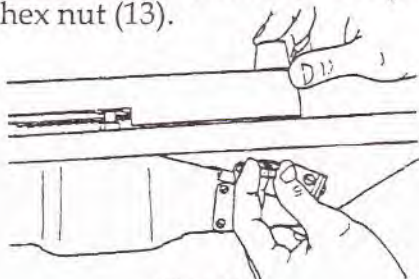

Fig. 13
22. Attach a special washer (17) and hex nut (13) to the stud, as shown in Fig. 13. Use a 1/2" socket wrench to securely tighten the hex nut (13).